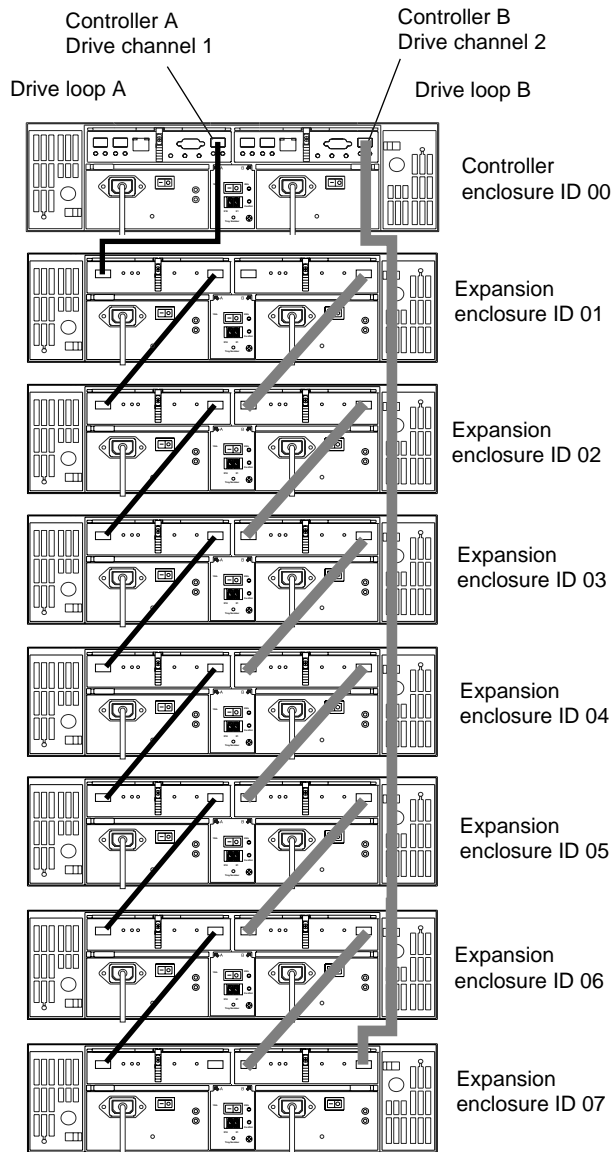

Figure 4-9 Adding New Expansion Enclosures to an Existing Array
2. Using Figure 4-9 as a guide, connect the cables from the controller enclosure to the new expansion enclosure(s). Then, if applicable, connect the cables from the existing expansion enclosure(s) to the new expansion enclosure(s).